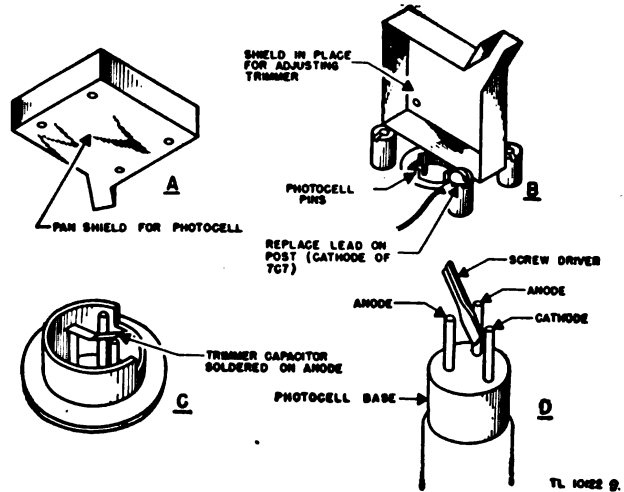

Figure 17. Adjustment of trimmer capacitor on photocell.
d. ADJUSTING PHOTOCELL BALANCE. If the db meter does not register sufficient contrast between black and white, or if the minimum reading (balance point) on either black or white does not appear at -10 db or lower, balancing capacitor C8 may need adjusting. Set the selector switch on SET RANGE and adjust the CONTRAST control to dip on black of the phasing ring. Have the GAIN control set high enough to get a good indication on the meter. Remove the pan from the base of the photocell and reset it to act as a shield. (See fig. 17.) Connect the ground wire back to the post. Using a non-conducting aligning tool, vary the spacing of copper strip capacitor C8 to the anode. Watch the db
bly, with a little cotton moistened in alcohol. Place the rubber rings on the cell and pack them into place as the cell is replaced. Be sure that the front of the cell lines up with the scanning beam. Replace the shield ring and connect the wires to the pins. It will be necessary to determine which anode requires the trimming capacitor. To do this, temporarily mount the shield pan as shown in part B of figure 17. Turn on the power, flick the selector switch to SET RANGE, the GAIN control to 100 and the CONTRAST control to 50. Have the scanning beam on black of the phasing ring. Using a small screw driver with an insulated handle, place the blade on one anode-pin end and point it towards the cathode as illustrated in part D. (See fig. 17.) Repeat this test on the other anode. The anode requiring the trimmer capacitor will be indicated by a drop in level on the meter. The small copper capacitor plate may now be soldered directly to the top of the proper anode as illustrated in part C. (See fig. 17.) The cell may then be balanced as described above.